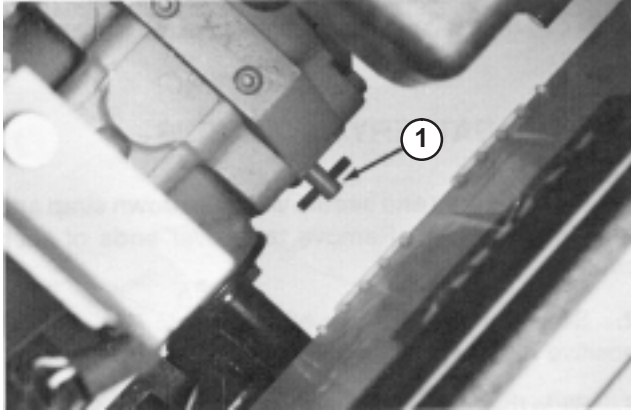

Figure 9
1. Reach in and rotate bypass valve on transmission (Fig. 9) counterclockwise 1/2 to 1 turn. Opening the valve opens an internal passage in the pump, thereby bypassing transmission oil. Because fluid is bypassed, the machine can be pushed without damaging the transmission.